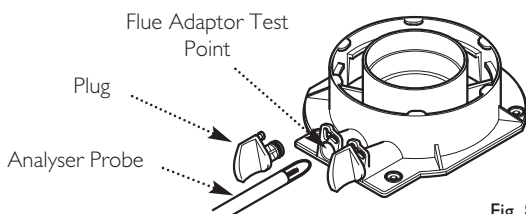

Fig. 89
7. Remove the plug from the flue sampling test point. Insert the analyser probe and allow sufficient time for the reading to settle (Fig. 89).